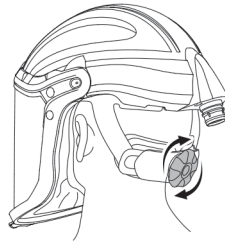

fig.1b
**Step 1:** Put the face shield on and adjust the face seal, make sure the face seal is fully sealed around the face (See fig.1b).